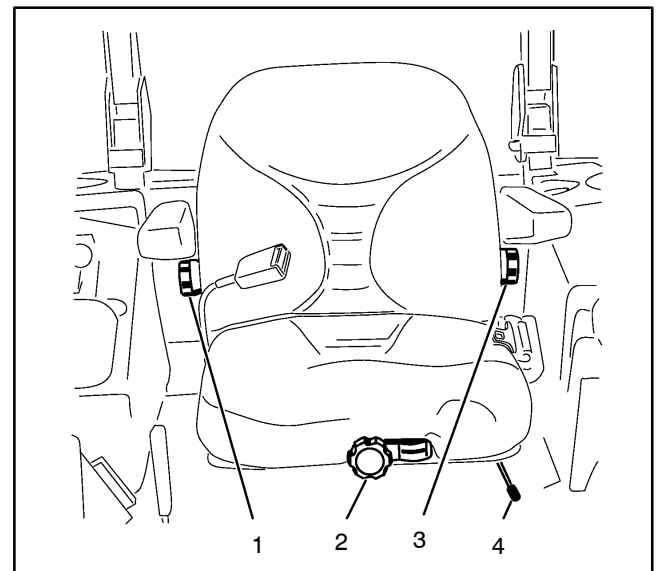

Figure 30
3. Carefully peel label from back rest knob (Fig. 30). Remove nut and knob from seat frame.
4. Remove six (6) x-mas tree clips that secure back cushion to seat frame. Remove back cushion.
5. Remove two (2) cap screws that secure bottom cushion to seat frame. Remove bottom cushion.
7. Remove eighteen (18) x-mas tree clips from seat frame to separate seat boot from frame.
8. Remove two (2) roll pins that secure bearing shafts to seat frame. Remove bearing shafts and split nylon bushings from frame.